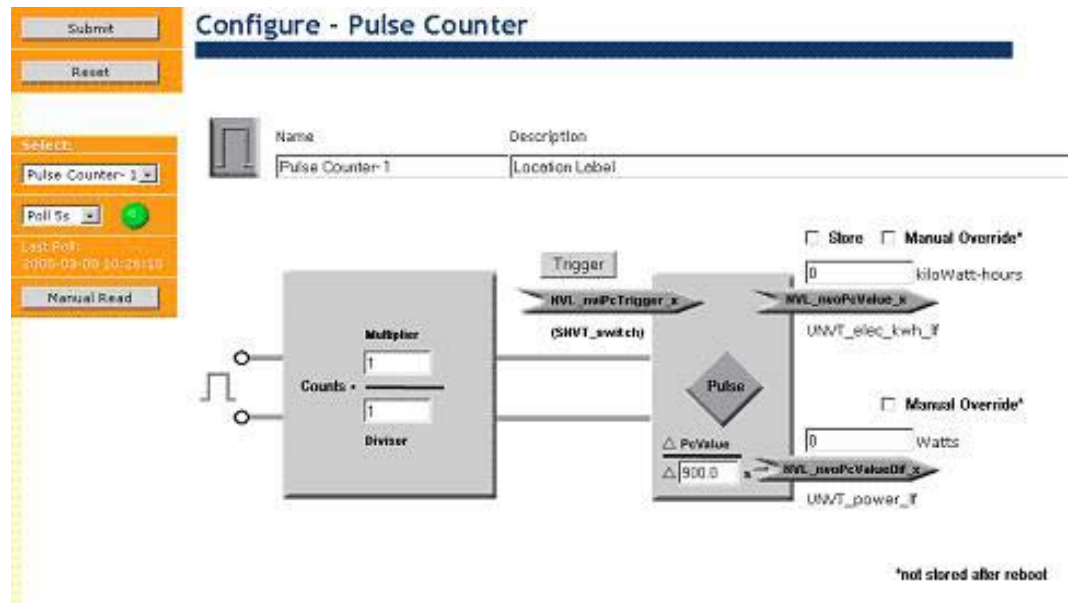

Figure 8.1 Configure – Pulse Counter Web Page
1. Open the *i*LON 100 Web pages, point your mouse cursor to **Configure** and then select **Pulse Counter** from the drop-down menu. The Configure – Pulse Counter Web page opens, as shown in Figure 8.1.